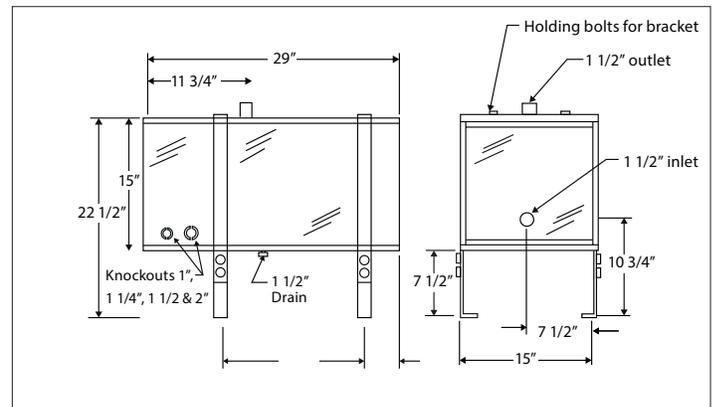

Figure 1 – Dimensions
4. The mounting hardware, as provided, is suitable for either floor or ceiling mounting. Note that each mounting bracket is to be attached at the top of the heating housing by two holding bolts (see Fig.1). Remove the two bolts and install the first mounting bracket prior to removing the second two bolts to install the second mounting bracket. If all bolts are removed at once the tank may shift which will increase installation time.
5. Please refer to Figure 1 for dimensions. Be sure to provide adequate space to facilitate installation and maintenance. Leave a minimum of 24" (60 cm) clearance